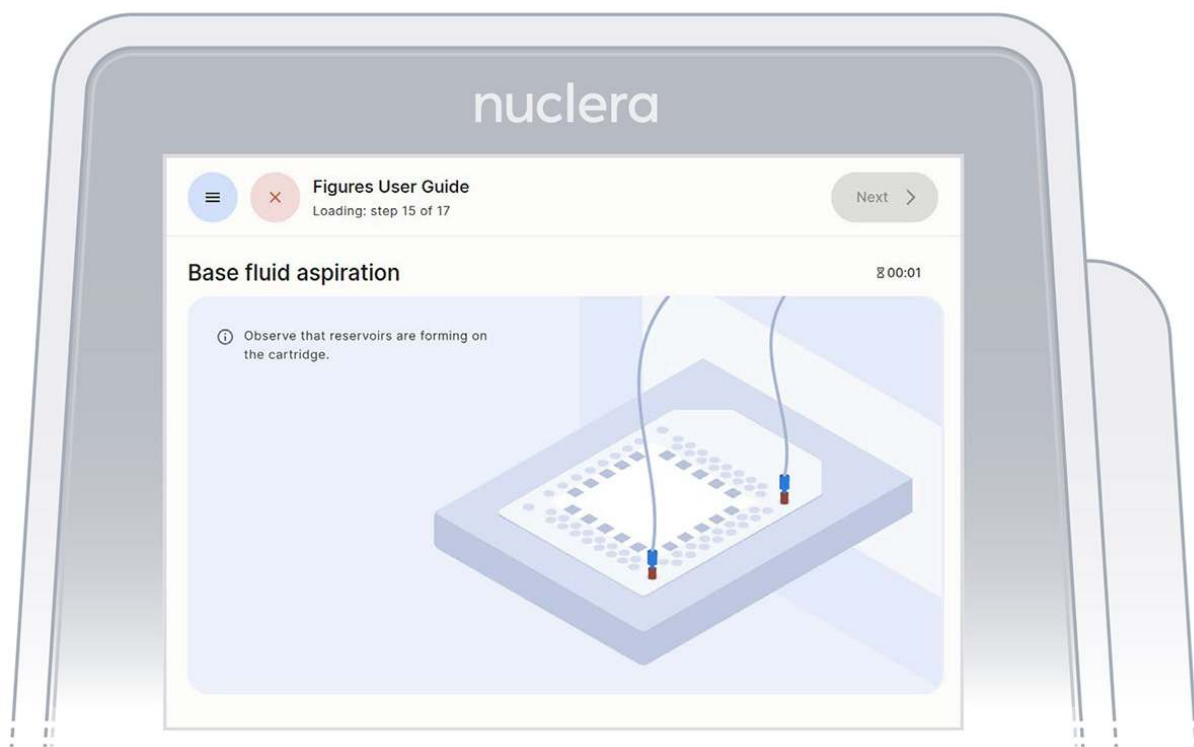

Figure 26: Base fluid aspiration
1. Press the [Next] button to start the aspiration of the base fluid and the loading of the reagents on the cartridge (Figure 26).